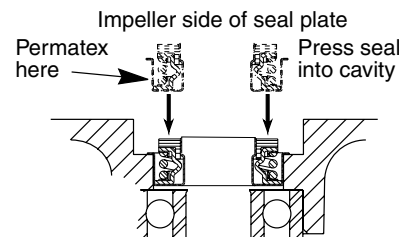

Figure 1
**NOTICE:** Make sure that seal faces are clean and undamaged. Apply Permatex #2 or equivalent sparingly to outside edge of seal body (with spring) Figure 1.
1. Press new seal body into cavity in seal plate (Figure 1).